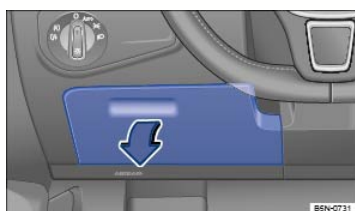

Fig. 174 On the driver side: Storage compartment.
To *open* the compartment, push the release lever up and then pull the handle ⇒ Fig. 174① in the direction of the arrow.